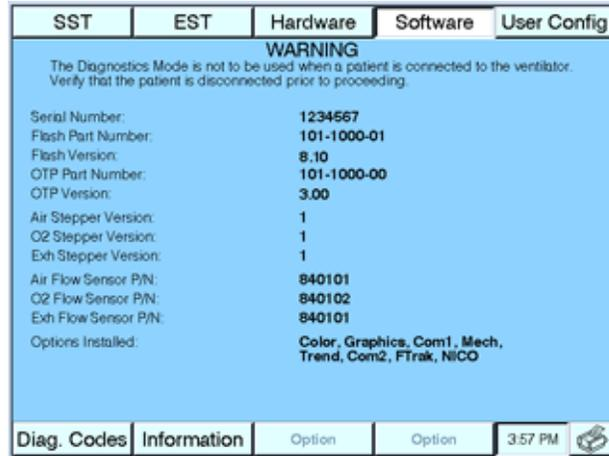

Figure 8-2: Diagnostic Mode - Software Screen
- c. Touch **Software** on the diagnostic screen and record the ventilator configuration information (Figure 8-2) on the Performance Verification Data Form (page 8-52).